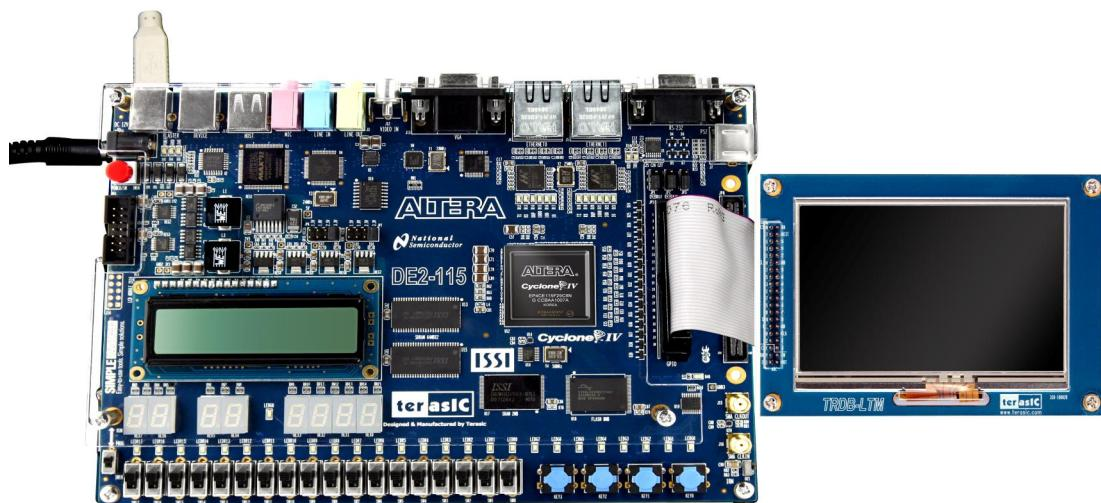

Figure 4.4. The connection setup for the Ephoto demonstration with DE2-115 board
1. Ensure the connection is made correctly as shown in Figure 4.4 and Figure 4.7. Make sure the IDE cable is connected to JP1 of the DE-115/DE2/DE1 board